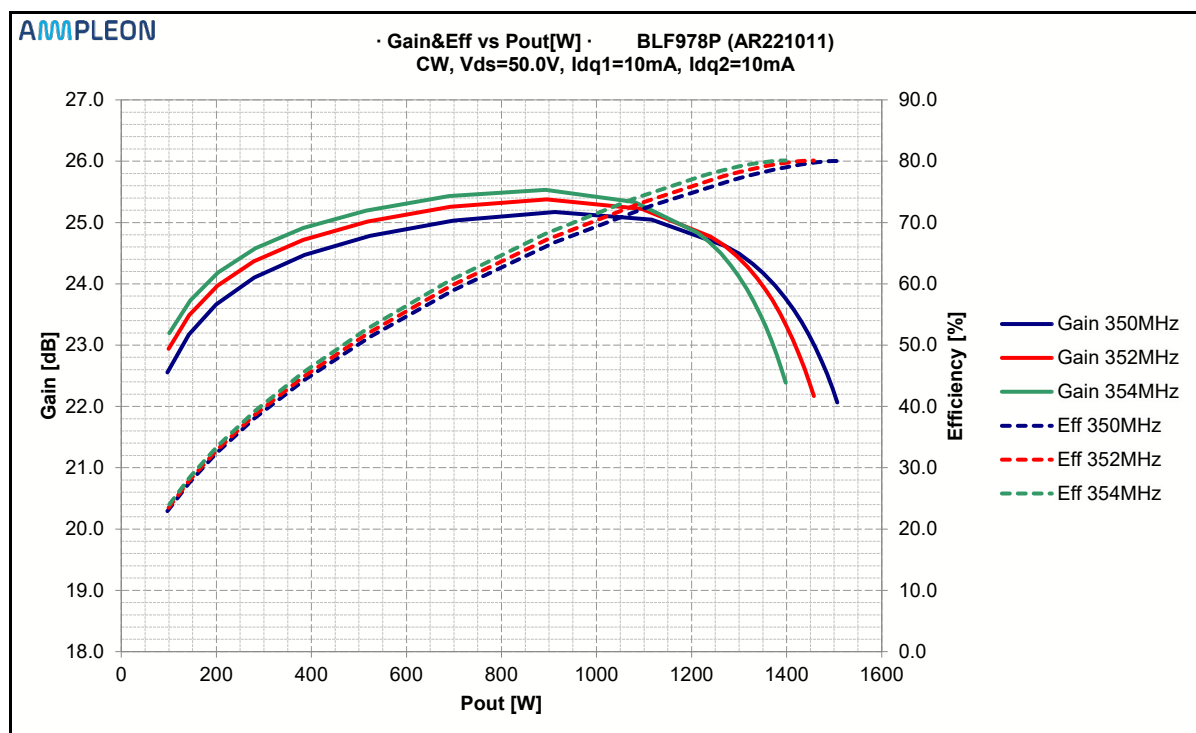

Figure 1 CW Gain and Efficiency vs Pout [W]
- Figure 1 CW.....Gain and Efficiency vs Pout [W] 4